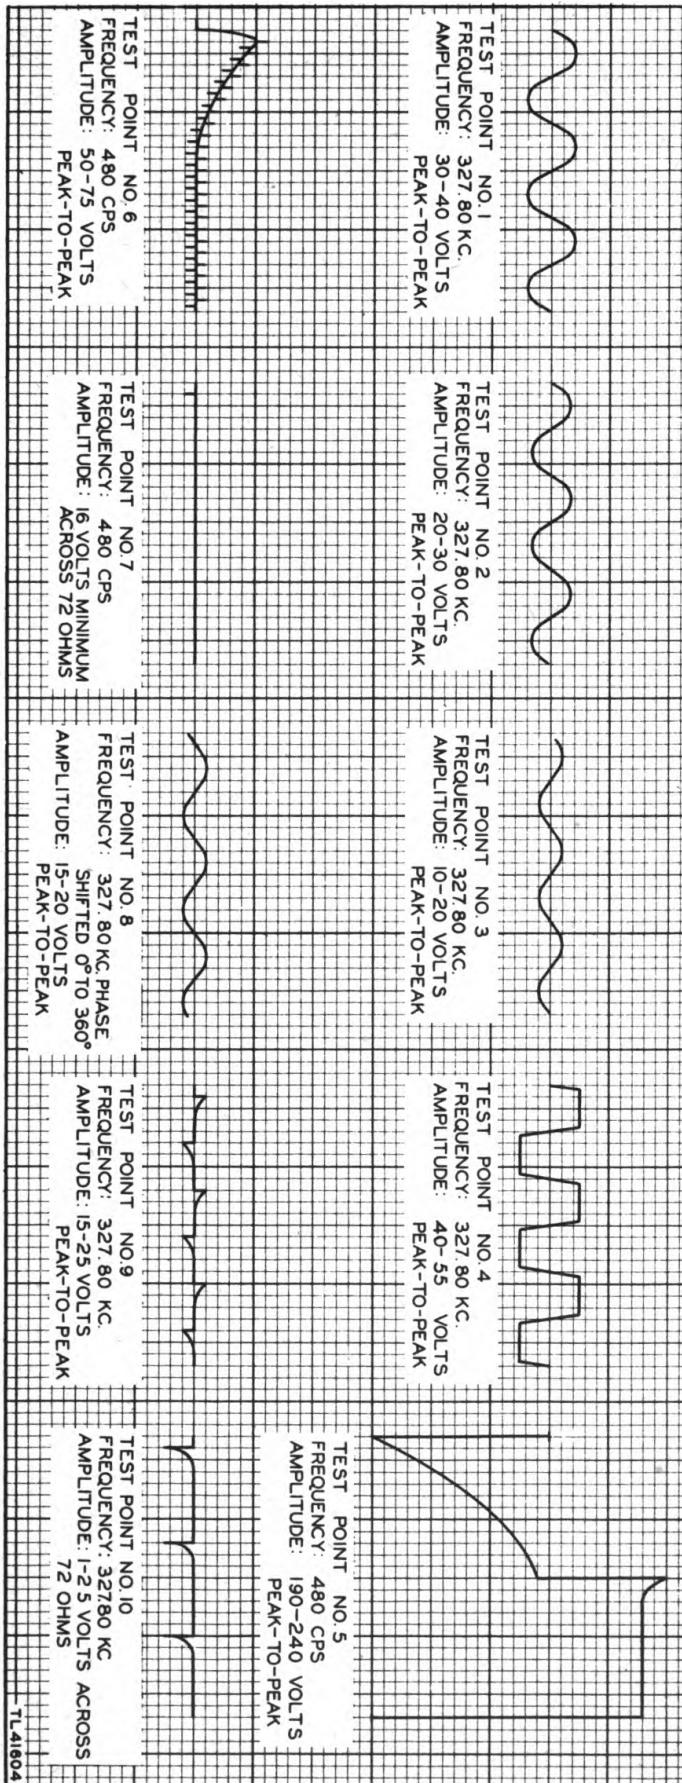
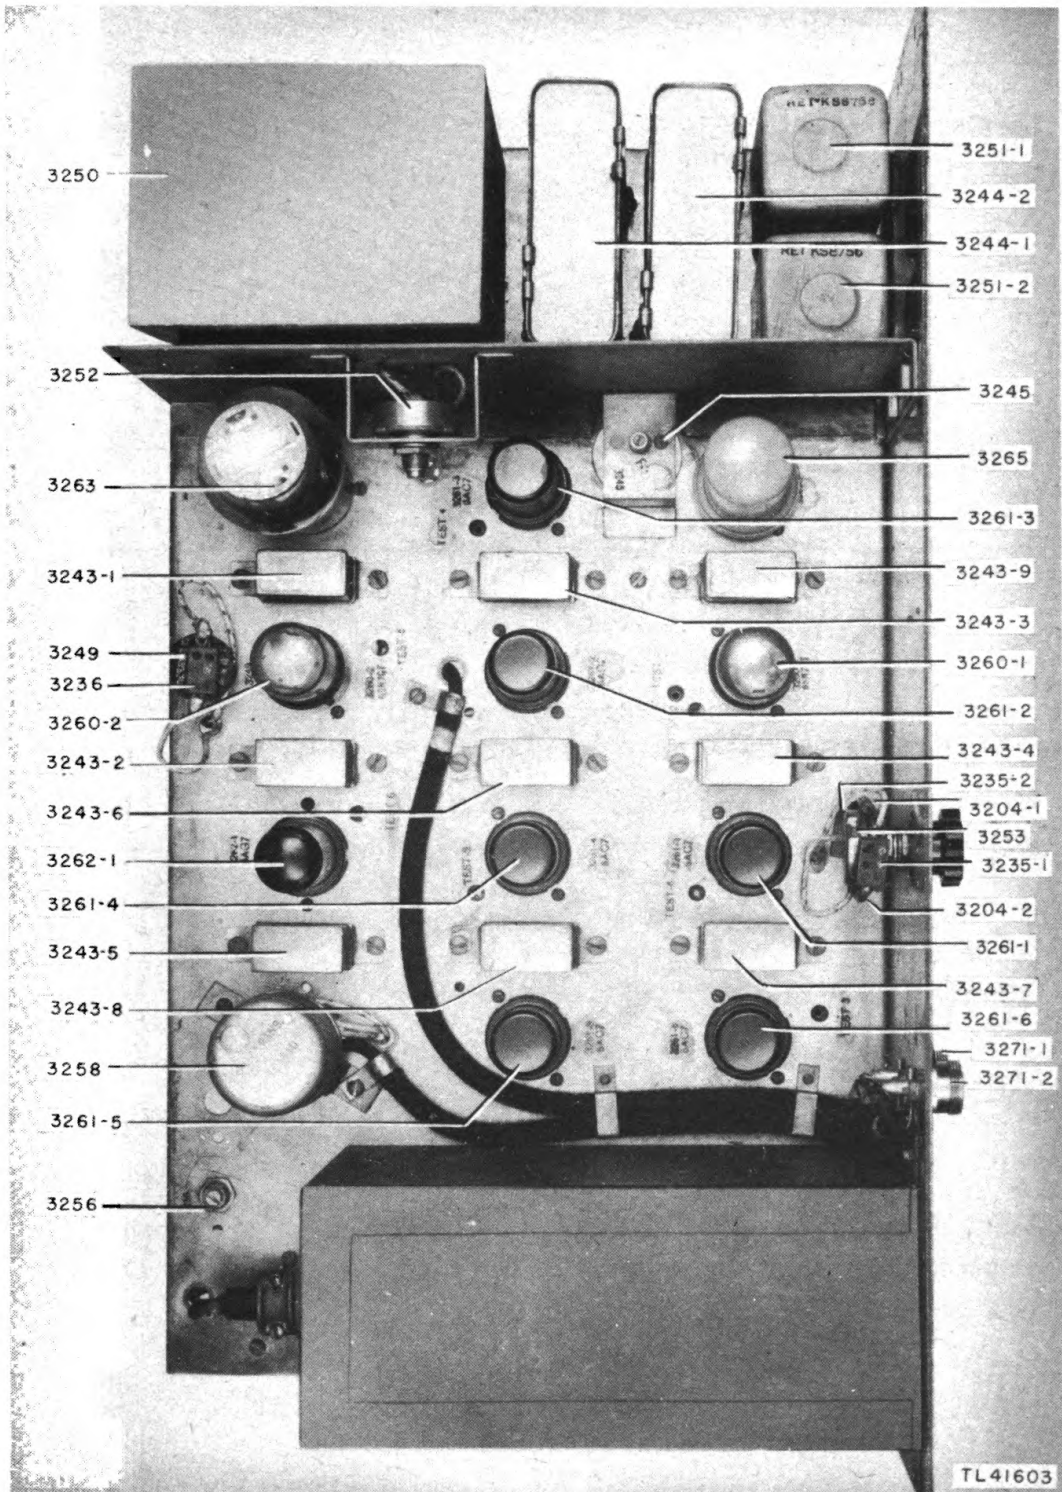

Figure 9. Calibrator I-189-A, waveform chart.
Figure 12. Calibrator I-189-A, top of chassis.
**c. Class C Amplifier.** The 480-cps pedestal with the pips superimposed on it (test point 6, fig. 9) is coupled directly to the following Class C amplifier stage (fig. 8). A 6AG7 tube (3262) is used with high cathode bias to cut off all but the pip on top of the pedestal. When this pip overcomes the bias, a 1-microsecond negative pulse is delivered to the SYNC output jack (test point 7, fig. 9) to trigger the range oscilloscope. Transformer 3258 steps down the tube impedance and delivers a sufficiently high-voltage pulse to the 72-ohm load. Potentiometer 3256 permits adjusting the 6AG7 bias for the maximum undistorted output pulse.
(7) The parallel voltage divider consisting of resistor 3204-1 and capacitor 3235-1 operates in the same manner except that the positions of the resistor and capacitor are reversed. This changes the direction of the two vectors  $E_{cd}$  and  $E_{da}$  so that the output voltage at *d* leads  $E_k$  instead of  $E_p$ . Thus the full  $360^\circ$  phase shift is obtained.
(8) It can be seen from the vector diagram that the magnitude of the output voltage is not constant. It is equal to  $E_p$  or  $E_k$  at the four stationary taps of the potentiometer and decreases to approximately 70 percent of each input voltage at the midpoints of each one of the voltage divider sections. This variation in amplitude is permissible, however, since the output voltage at its minimum is still large enough to overdrive the squarer stage and produce a square-wave output (subpar. b below).
**b. Squarer and Amplifier.** The phased voltage from the phase shifter is coupled to the input of the squarer and amplifier stage (tubes 3261-6 and 3261-5) by capacitor 3240. The operation of this circuit is the same as the squarer-amplifier circuit in the synchronizing pulse generator (par. 15a). The squarer output is differentiated by capacitor 3237-2 and resistor 3201-1, resulting in the pips shown at test point 9 (fig. 9).
**c. Class C Amplifier.** The differentiated pips are fed into a Class C amplifier, 6AC7 pentode 3261-4 (fig. 8). Positive cathode bias, provided by resistors 3221 and 3202, keeps the tube cut off except on positive pips. The latter produce negative pulses in the plate circuit as shown at test point 10 (fig. 9). These pips are coupled to the MARKERS output jack as the 500-yard marker pulses.
**a. Reference Data.** The block diagram, the simplified and complete schematic diagrams, and the waveform chart will be of assistance to maintenance personnel in trouble shooting in the calibrator. In addition figures identifying all the parts on the chassis and tube socket voltage and resistance diagrams are included at the end of the trouble-shooting chart (par. 23). The waveforms shown in figure 9 are not test scope waveforms. Most of the waveforms at the test points are too high in frequency for the shape of individual cycles to be seen on an ordinary test oscilloscope. The waveforms viewed at the various test points on the chassis, however, will give an indication of how the circuits are operating.
| 3. Crystal 3265.                | 3. Check by replacing crystal (fig. 12).                              |
| 1. Incorrect bias of sync pulse Class C amplifier 3262.                          | 1. Vary resistor 3256 (fig. 12) for maximum output with waveshape as shown at test point 7 (fig. 9 and par. 25). |
| 3. Output transformer 3258.  | 3. Check transformer windings for open and short circuits (fig. 12).   |
| 4. Faulty connection between SYNC output jack and range oscilloscope sync input. | 4a. Check continuity of coaxial cable.b. Check jack 3271-2 (fig. 12).  |
| 2. Phase-shifter circuit.   | 2. Check potentiometer 3253 and associated circuit (fig. 12).                     |
| 3. Faulty connection between MARKERS output jack and video input on range oscilloscope. | 3a. Check continuity of coaxial cable.b. Check jack 3271-1 (fig. 12).         |
| 1. Phase-shifter circuit. | 1. Check potentiometer 3253 and associated circuit (fig. 12). |
**d.** Adjust potentiometer 3252 (fig. 12) until eight cycles of the pedestal from the multivibrator are seen on the screen.
- c. Adjust resistor 3256 (fig. 12) for maximum clean output as seen on the oscilloscope screen.
- c. Adjust capacitor 3245 (fig. 12) for maximum output as observed on the test oscilloscope.